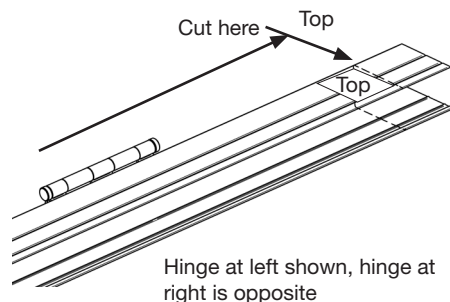

Fig. 3
**Note:** Use masking tape around channel where measuring and cutting will be done. It reduces scrapes from cutting, and is easy to mark a line with any type of pencil or pen (Fig. 3).